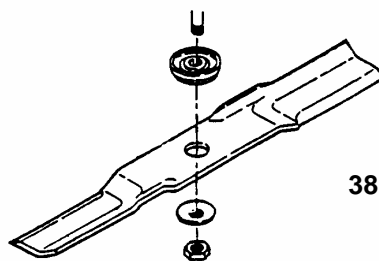

FIGURE 4.16
6. Remove blade(s). See Figure 4.16.
10. Reinstall blade. See Figure 4.16. Torque blade mounting bolts to recommended range of: